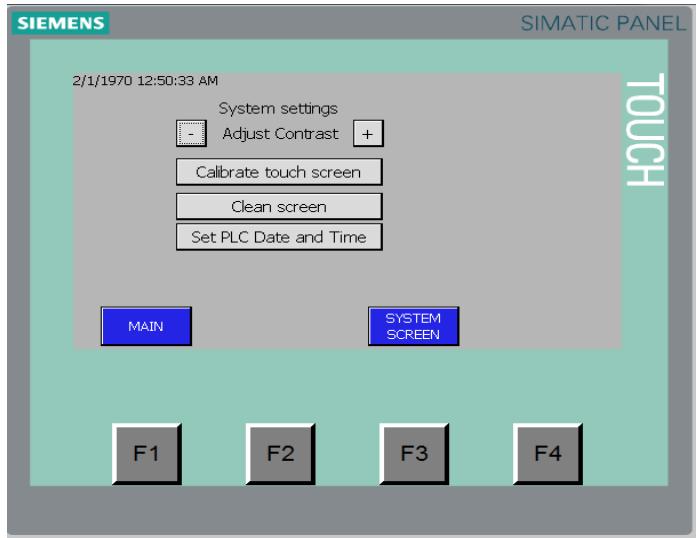
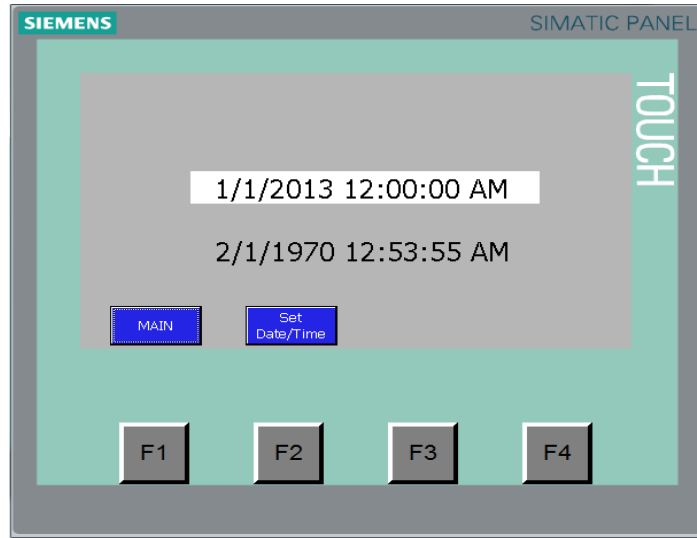

Figure 1.6
Figure 1.7
- 6.3 Date/Time The Date/Time screen displays the current date and time. This may be configured by the customer using the correct username and password. The display will change to the Username and Password screen prompted by pressing the button on the touch screen. Fig 1.6 and fig 1.7.